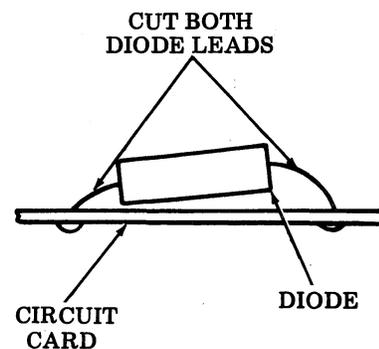

Fig. 3—Diode on Matrix Circuit Card
3.03 To program a marking bit cut both diode leads and remove diode (Fig. 3). Leave diode connected for spacing bits.